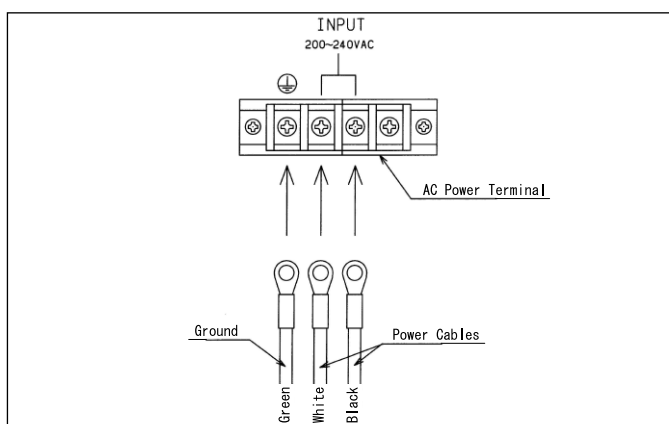

Fig 12
- 1) Use the provided screws to firmly fasten the AC power cord to the AC Power Terminal ②④ on the rear of the control unit as shown in Fig 12.